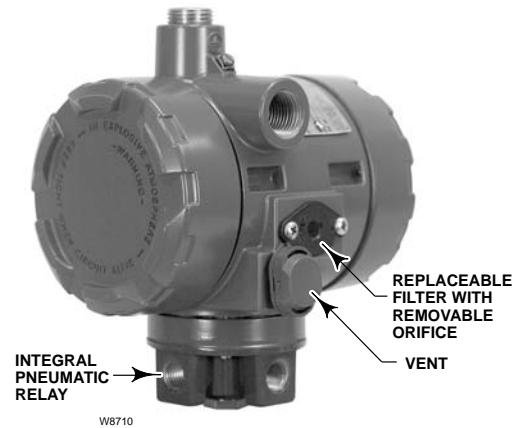

Figure 1. Fisher i2P-100 Electro-Pneumatic Transducer
The Fisher i2P-100 electro-pneumatic transducer, shown in figure 1, uses a converter module that converts a milliampere input to a proportional pressure output. Both the current input and pressure output range are user-configurable in the field. The converter module uses small parts of minimum mass, which are balanced symmetrically around a pivot point at the center of the mass. This balanced arrangement results in a high performance instrument that reduces sensitivity to vibration.
- **Tolerant of Dirty Supply Medium**—Free-flow pilot stage design and large internal air passages provide excellent tolerance to dirty pneumatic supply, by reducing the effects of contaminant buildup and erosion. The removable primary orifice and replaceable 5 micron filter are easy to remove for service and maintenance (see figure 1).